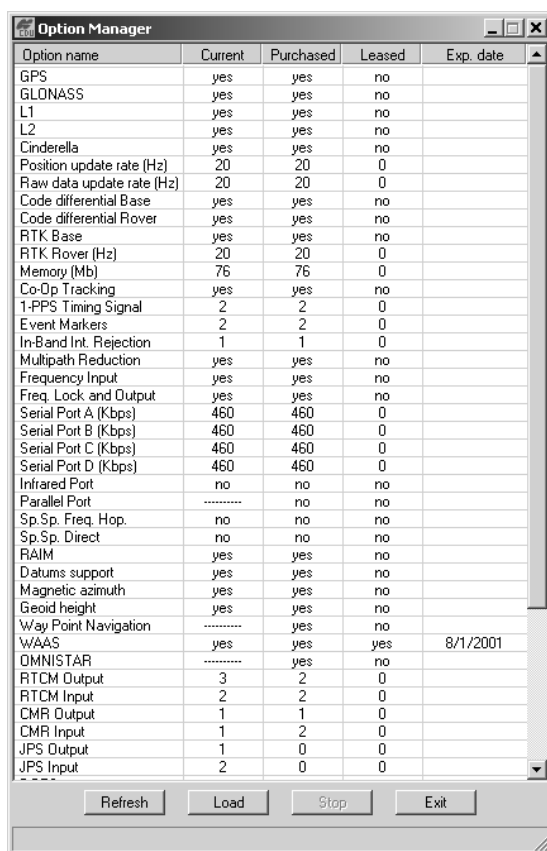

Figure 3-16. Option Manager
The **Option Manager** screen displays (Figure 3-16 on page 3-17) and contains the following information:
2. Click **Load** at the bottom of the *Option Manager* screen (see Figure 3-16 on page 3-17).